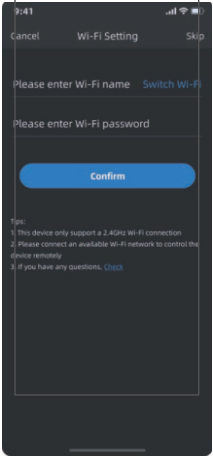

Figure 4
- 4)Figure 4: The Bluetooth **"Connection successful"** is displayed, and after 2 seconds, the **"WiFi settings"** page is entered.